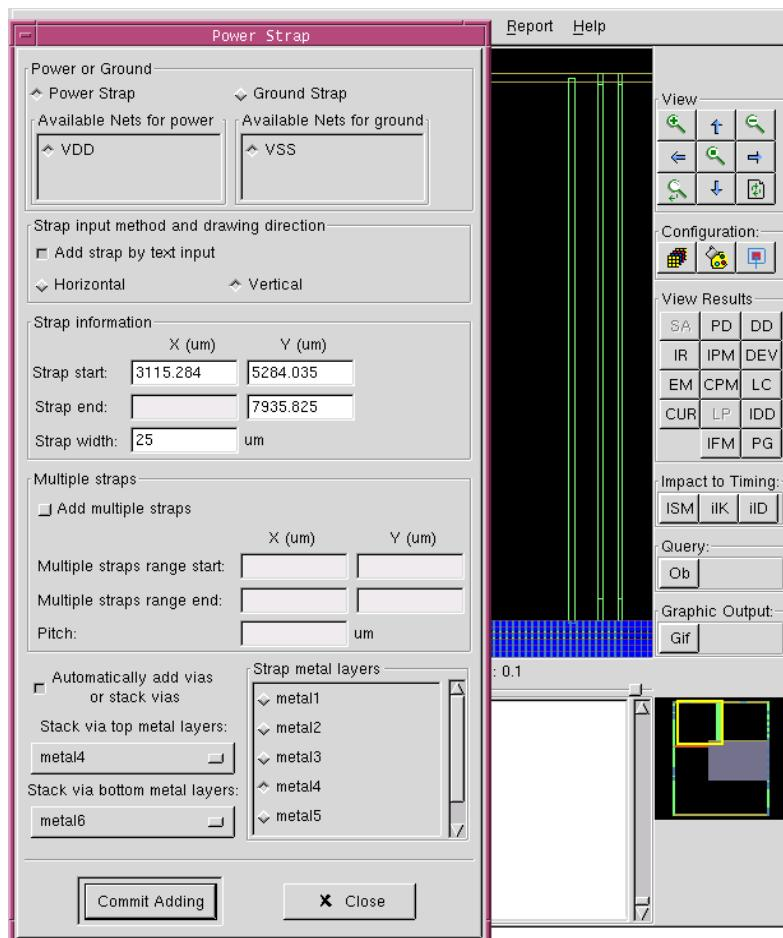

Figure 7-3 Adding multiple straps with Add multiple straps
7. Click on **Commit adding** when the specification and drawn straps are correct (there is no undo function). If there is a physical error or short, an error message will be displayed. A successful strap addition is illustrated in Figure 7-3.